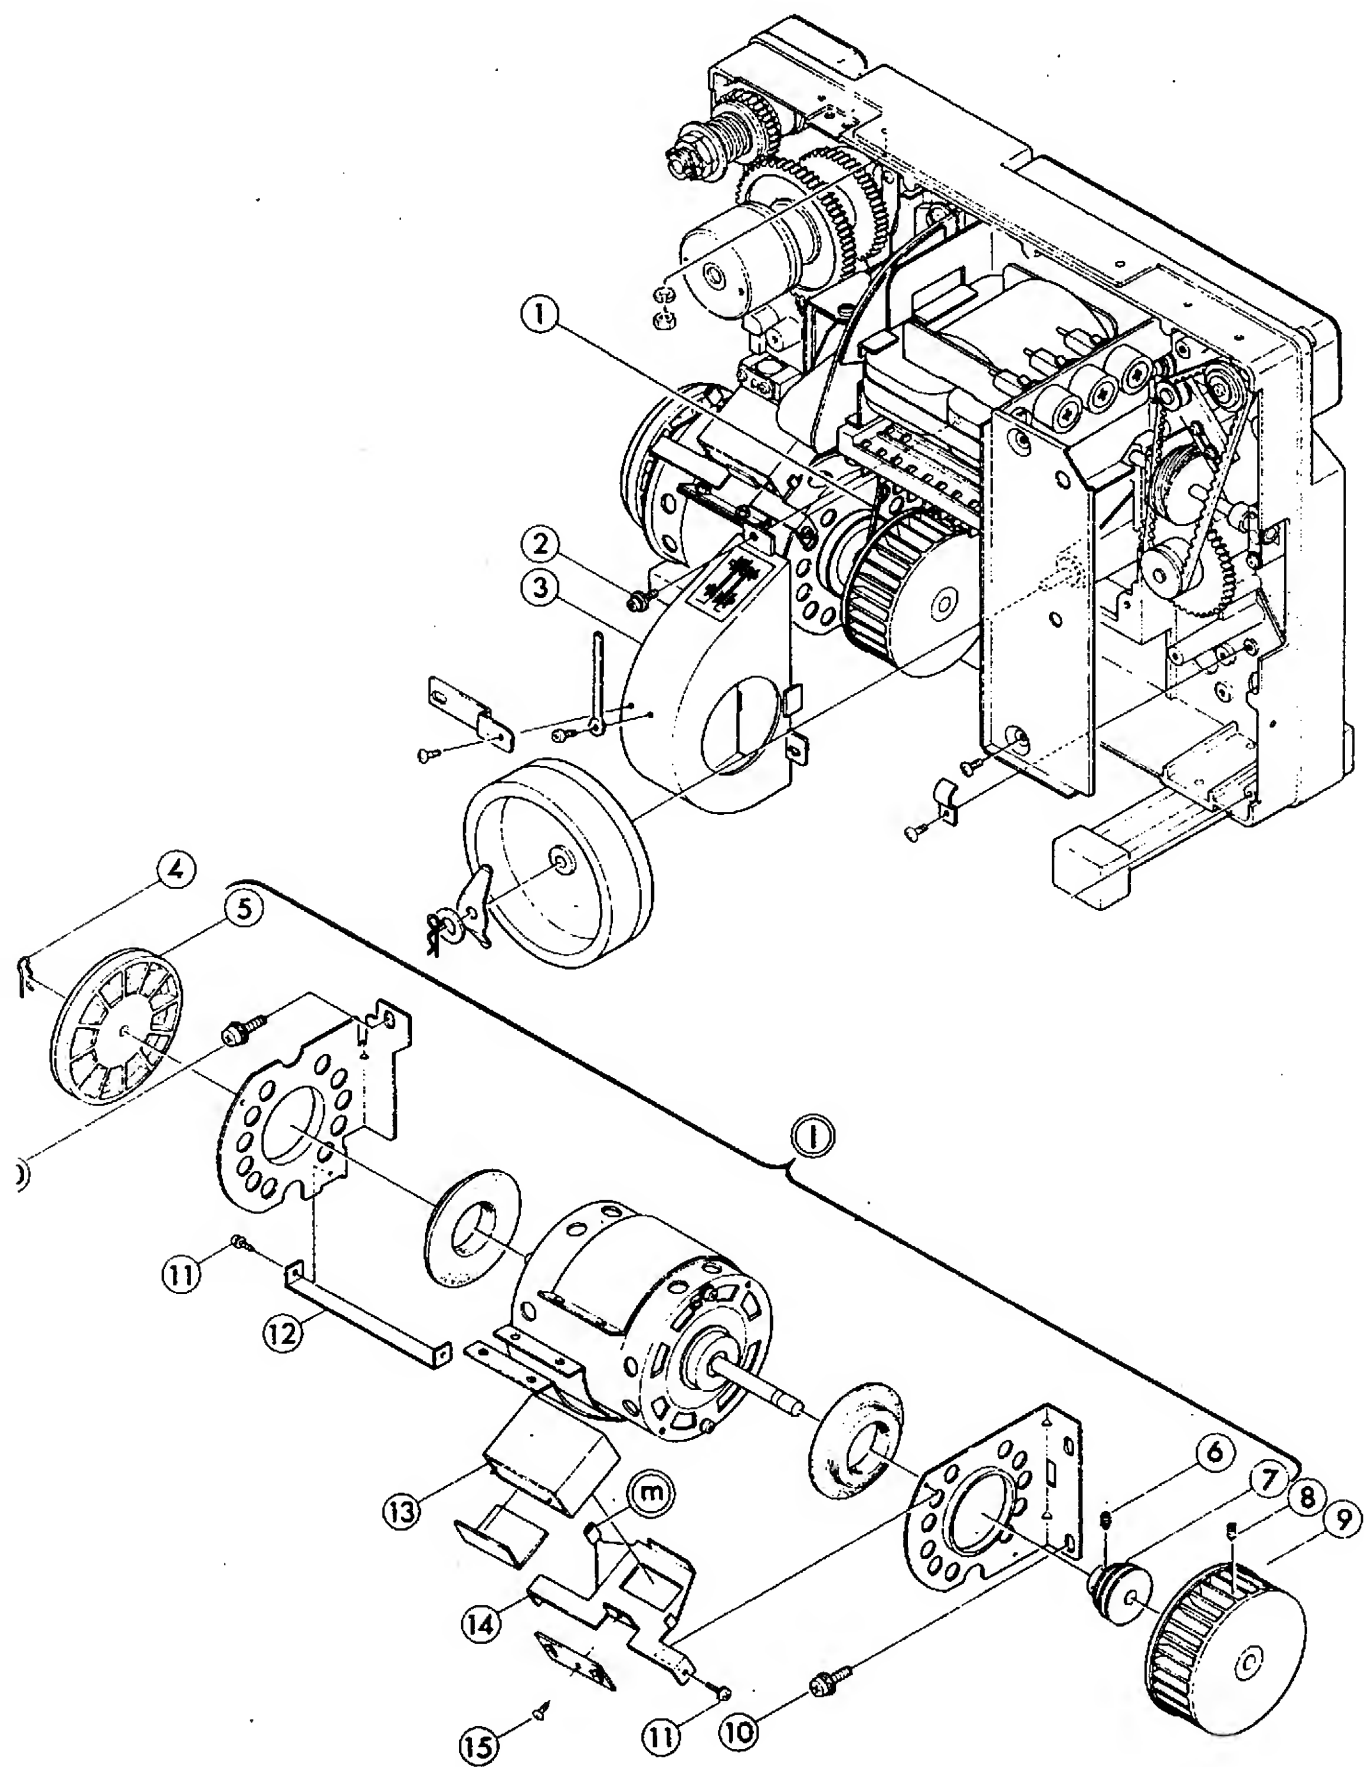

Fig. 14
- (3) Raising (m) in Fig. 14 up, remove Fig. 14-13 by loosening Fig. 14-15.
- (7) Remove (l) in Fig. 14 as a unit, unfastening Fig. 14-1 from (l).
- (1) Adjust the position of (l) in Fig. 14 so that the adequate belt tension is obtained.
And be sure that (l) in Fig. 14 does not interfere with other parts.